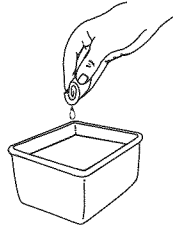

Fig. 25
- Wash the filter in detergent and water (Fig. 25). Rinse the filter thoroughly and allow it to dry.